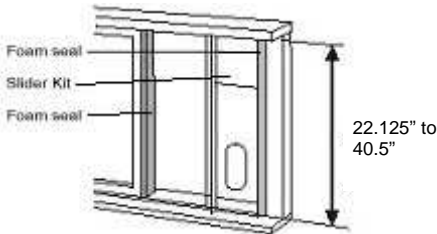

Fig.8
1. Trim foam seal (adhesive type) to the proper length and attach to window frame. (Fig.8)
2. Adjust the length of the slider kit according to the height of window. Attach slider kit against foam seal. (Fig.8)
3. Trim the other foam seal (adhesive type) to the proper length and attach to side of sliding window panel. (Fig.8)